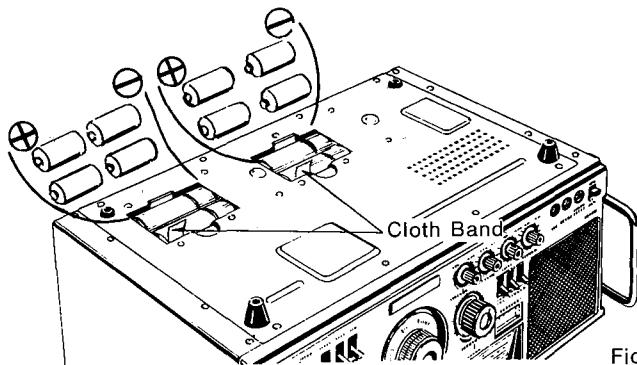

Fig. 2
- Insert 8 "D" size (Panasonic UM-1 or equivalent) batteries, observing the correct polarity, as shown in Fig. 2. Place the cloth bands under the batteries to facilitate easy removal.